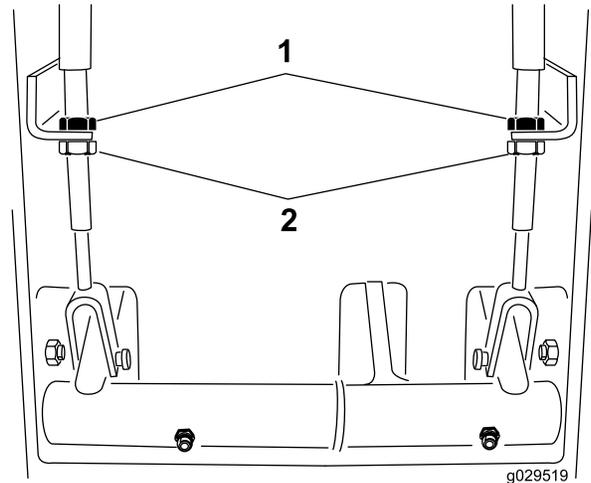

Figure 71
2. To reduce the free travel of the brake pedals, loosening the front jam nuts at the threaded end of the brake cable (Figure 71).